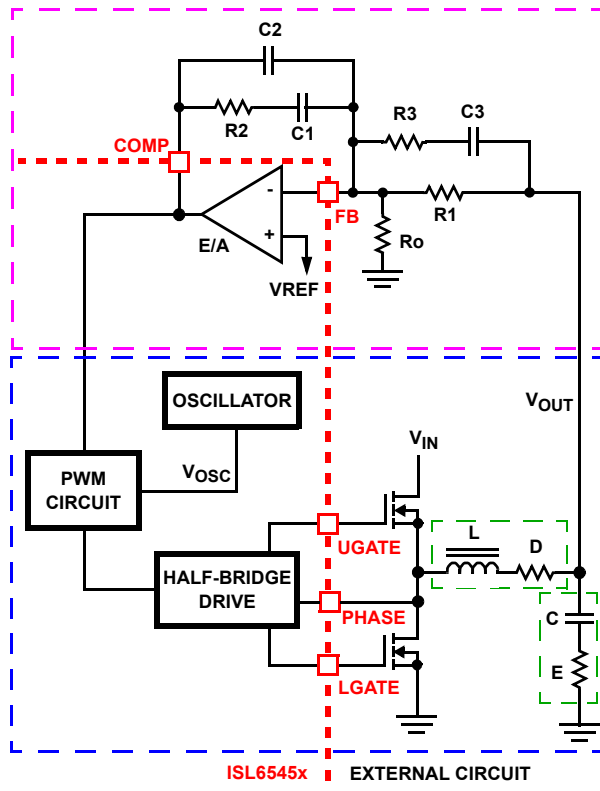

FIGURE 9. VOLTAGE-MODE BUCK CONVERTER COMPENSATION DESIGN
This section highlights the design consideration for a voltage-mode controller requiring external compensation. To address a broad range of applications, a type-3 feedback network is recommended, as shown in the top part of Figure 9.
Figure 9 also highlights the voltage-mode control loop for a synchronous-rectified buck converter, applicable to the ISL6545x circuit. The output voltage (V_{OUT}) is regulated to the reference voltage, V_{REF} . The error amplifier output (COMP pin voltage) is compared with the oscillator (OSC) modified sawtooth wave to provide a pulse-width modulated wave with an amplitude of V_{IN} at the PHASE node. The PWM wave is smoothed by the output filter (L and C). The output filter capacitor bank's equivalent series resistance is represented by the series resistor E .
The compensation network consists of the error amplifier (internal to the ISL6545x) and the external $R1$ - $R3$, $C1$ - $C3$ components. The goal of the compensation network is to provide a closed loop transfer function with high 0dB crossing frequency (F_0 ; typically 0.1 to 0.3 of F_{SW}) and adequate phase margin (better than 45°). Phase margin is the difference between the closed loop phase at F_{0dB} and 180°. The equations that follow relate the compensation network's poles, zeros and gain to the components ($R1$, $R2$, $R3$, $C1$, $C2$, and $C3$) in Figure 9. Use the following guidelines for locating the poles and zeros of the compensation network:
1. Select a value for $R1$ (1kΩ to 5kΩ, typically). Calculate value for $R2$ for desired converter bandwidth (F_0). If setting the output voltage via an offset resistor connected to the FB pin, R_o in Figure 9, the design procedure can be followed as presented.